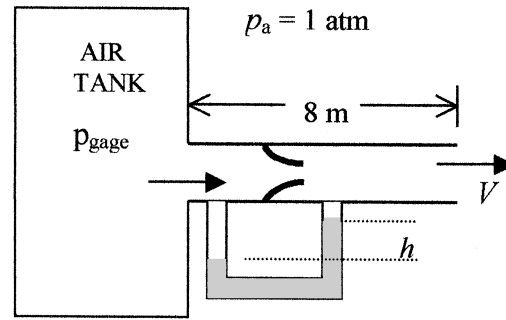

Fig. P6.149
**6.149** In a laboratory experiment, air at 20°C flows from a large tank through a 2-cm-diameter smooth pipe into a sea-level atmosphere, as in Fig. P6.149. The flow is metered by a long-radius nozzle of 1-cm diameter, using a manometer with Meriam red oil (SG = 0.827). The pipe is 8 m long. The measurements of tank pressure and manometer height are as follows: